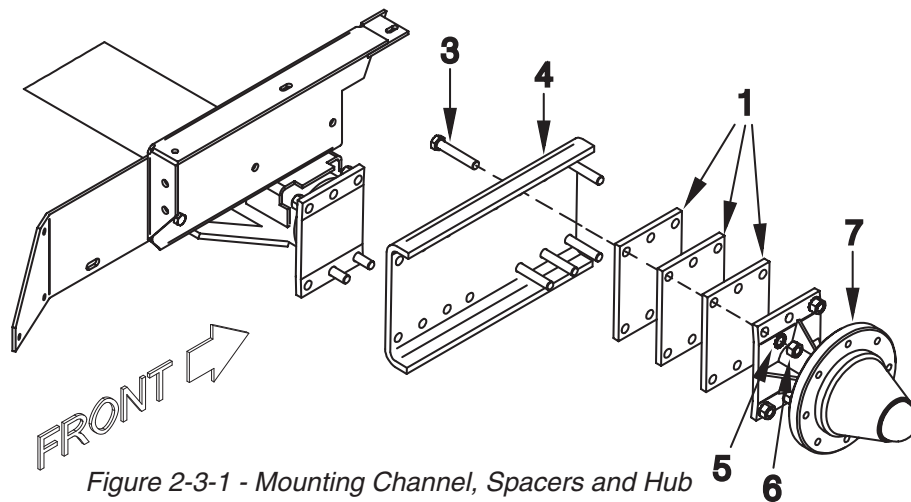

Figure 2-3-1 - Mounting Channel, Spacers and Hub
A. (See Figure 2-3-1) Place (5) Item 3 Bolts through the mounting channel. Place (3) Item 1 Spacer Plates and 1 Item 7, Hub and Spindle on the mounting channel. Secure the Hub and Spacer Plates to the mounting channel with 5/8" star washers and nuts. Torque all nuts and bolts as per torque chart on page 2-3-1.